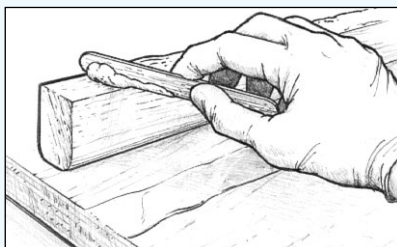

Figure 10 Apply thickened epoxy to one of the bonding surfaces.
2. Modify the resin/hardener mix by stirring in the appropriate filler until it becomes thick enough to bridge any gaps between the mating surfaces and to prevent “resin-starved” joints. Apply an even coat of the thickened epoxy to **one** of the bonding surfaces, sufficient so that a small amount will squeeze out when the surfaces are joined together (*Figure 10*).